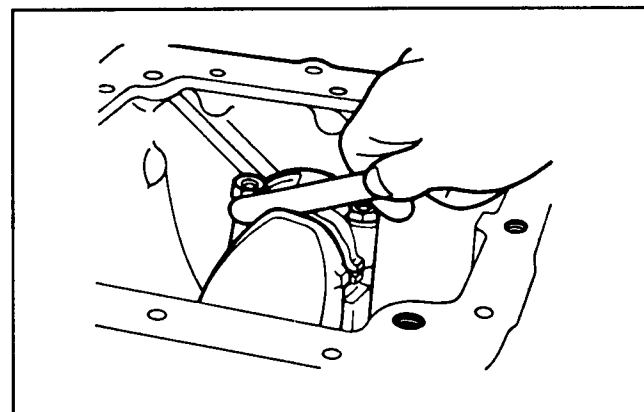

Figure 89
14. Assemble each connecting rod and bearing to the crankshaft in proper order. Use a feeler gauge to measure the side clearance between the connecting rod end and crankshaft (Fig. 89). Replace the connecting rod assembly if the side clearance is more than the specified amount.